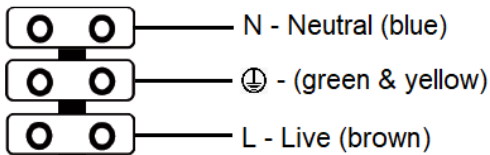

Fig. 1
- Connect the supply side of the terminal block to the mains supply ensuring the correct polarity is observed (see Fig. 1): L – Live (brown), Earth (green/yellow), N – Neutral (blue)